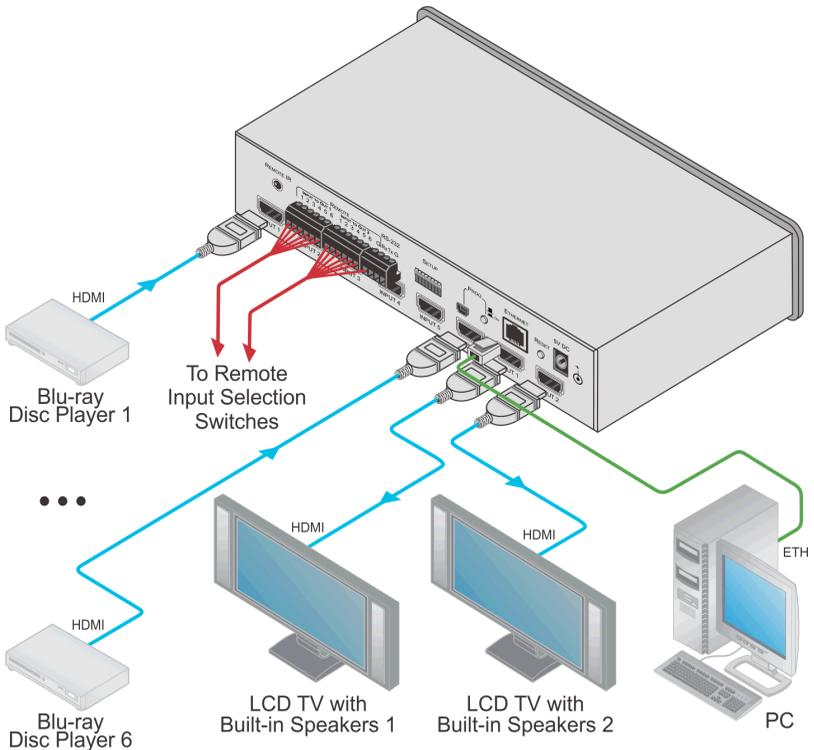

Figure 3: Connecting the VS-62H 6x2 HDMI Matrix Switcher
To connect the VS-62H 6x2 HDMI Matrix Switcher as illustrated in the example in Figure 3:
4. Connect the power adapter to the device and plug the power adapter into the mains electricity (not shown in Figure 3).